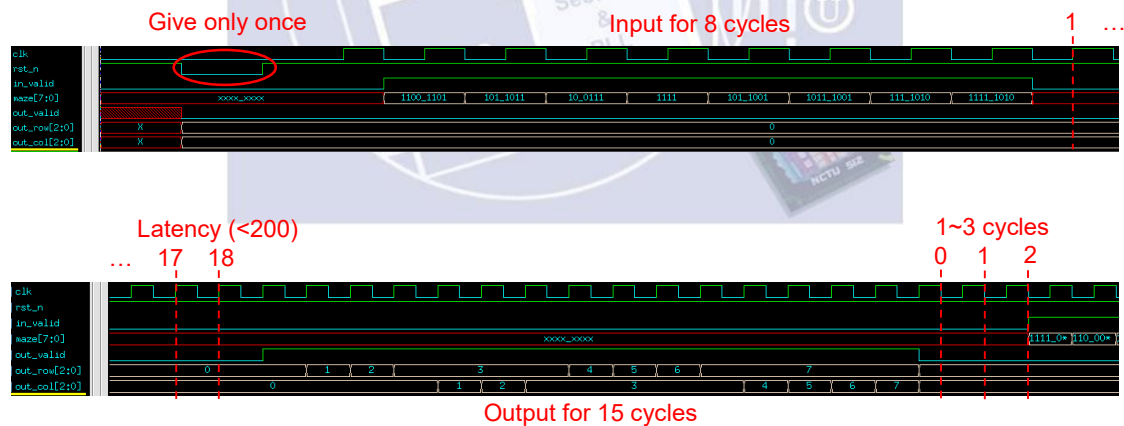

Fig. 3 Latency definition
5. The latency of your design in each pattern should not be larger than **200** cycles. The latency is defined in Fig. 3.